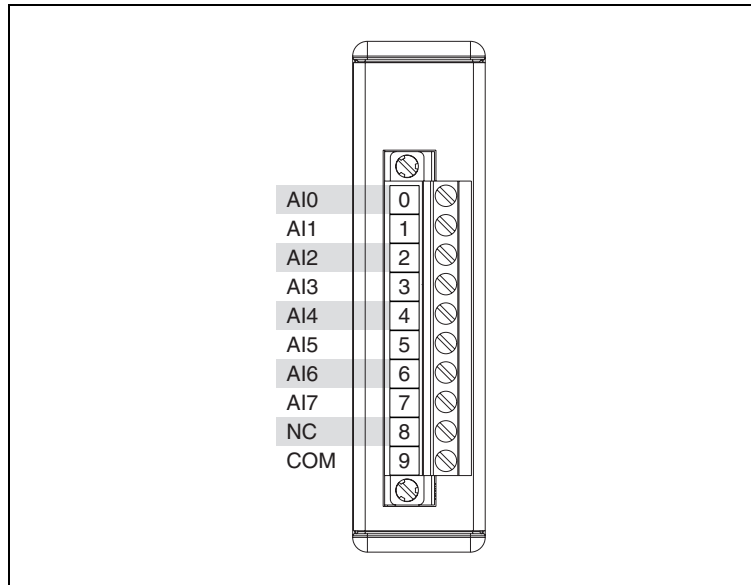

Figure 1. NI 9203 Terminal Assignments
1. Connect the calibrator to the channel you want to verify. Connect the LO output of the calibrator to COM, then connect the HI output of the calibrator to the AI channel. If the calibrator has a separate guard terminal not tied to the LO output, connect the guard terminal and the LO output to the COM of the NI 9203. Refer to Figure 1 for the terminal assignments of the NI 9203.